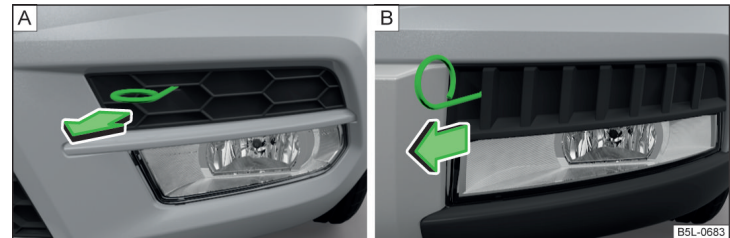
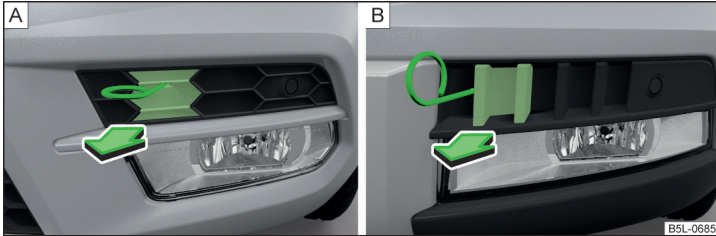

Fig. 199 Guard: Version 1/version 2
Fig. 200 Guard: Version 1/version 2
› Undo the protective grille in the direction of the arrow » Fig. 199 using the clamp for removing the wheel trims.
- Remove the plastic cover for the guard in the arrow direction » Fig. 200 using the bow to pull the full wheel covers.
First remove the grille for the fog lights and before changing bulbs » Fig. 199 on page 171 and / or » Fig. 200 on page 172.
- Replace the plastic cover and press into the guard » Fig. 200 on page 172¹⁾.